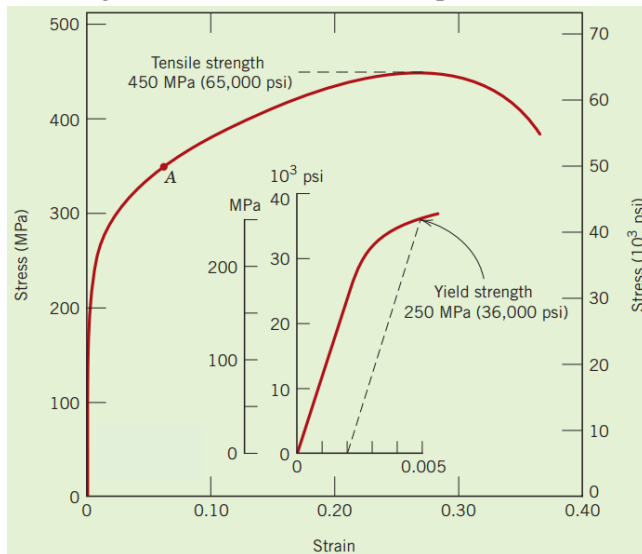

Figure 1 The stress-strain curve of a brass alloy. [1]
**1.2** Consider the brass alloy the stress-strain behavior of which is shown in Figure 1. A cylindrical specimen of this alloy 14 mm in diameter and 173 mm long is to be pulled in tension. Calculate the force necessary to cause a 0.0087 mm reduction in diameter. Assume a value of 0.33 for Poisson's ratio. (Please give the detailed calculation process.)